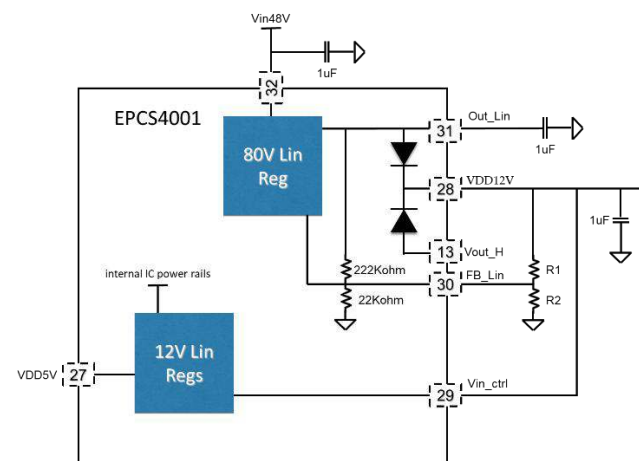

Figure 5: Internal regulators structure.
**FB\_Lin (Pin 30):** This is the feedback signal of the LinPOL48V block. It is internally connected to a voltage divider to regulate 12V at the Out\_Lin pin as default. The setpoint can be changed using an external voltage divider connected to VDD12V, as shown on Figure 5. The output voltage can be calculated as: